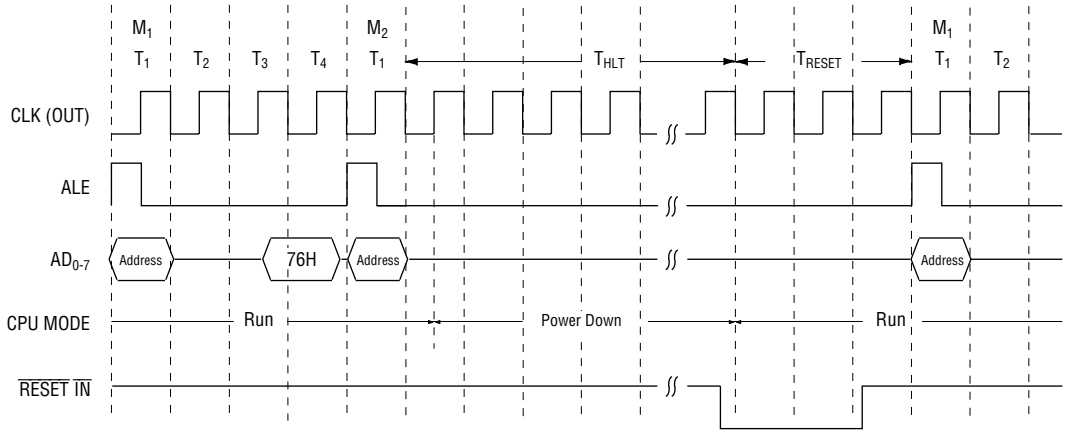

Figure 6 Started by HALT and Released by  $\overline{\text{RESET IN}}$
### (1) Start by means of HALT command (See Figures 6 and 7.)